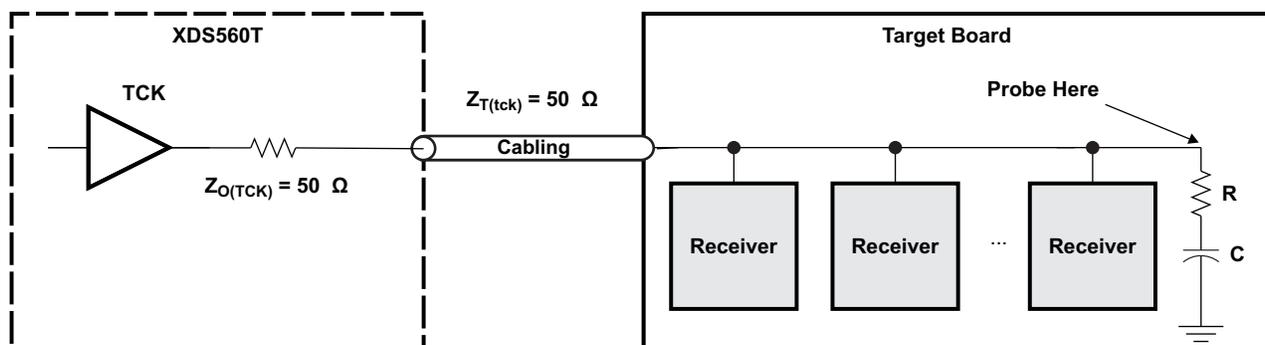

Figure 4. TCK AC Termination
An ac termination includes a resistor (R) and a capacitor (C). The ac terminations are frequently used to terminate a clock input and should always be placed as close as possible to the receiver. In situations where there are multiple receivers on TCK (i.e., multiple devices in the same JTAG scan-chain), the ac termination should be placed as close to the last receiver as possible (see Figure 4).